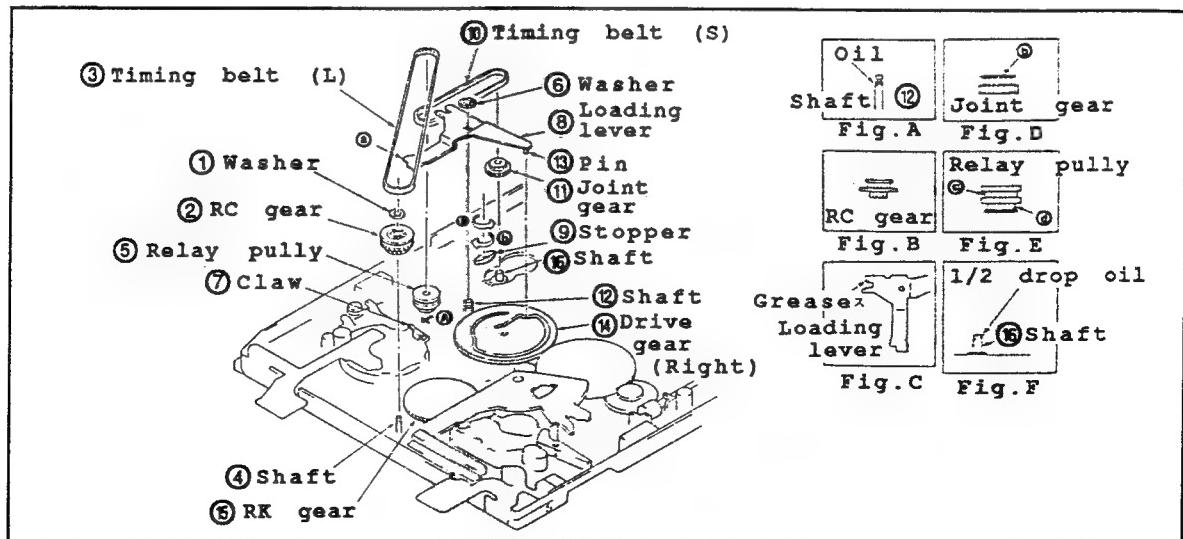

Fig.II-21
- Disassembling (Fig.II-21)
- (1) Set unloading state
- (2) In the same procedures in "3-3", dismount the capstan motor.
- (3) In the same procedures in "3-13", detach the pinch sub arm.
- (4) Remove the washer ①. Then dismount the RC gear ② (with the timing belt (L) ③ hooked) from the shaft ④.
- (5) Remove the washer ⑥. Then, detach the loading lever ⑧ while pushing the claw ⑦ toward the direction A.
- (6) Turn the stopper ⑨ toward the direction B by 90°.
- (7) Detach the joint gear ⑪ (with the timing belt (S) ⑩ hooked) from the shaft ⑯.
- (8) Separate the timing belt (S) ⑩ from the relay pulley ⑤.
*Note: When dismounting the gear ⑪, do not touch the flange B part. (Fig.D)
- Reassembling (Fig.II-21)
- (1) Apply 1/2 drop of oil to the shaft ⑯. (Fig.F)
- (2) Hook the timing belt (S) ⑩ to the joint gear ⑪, and then to the gear C of relay pulley ⑤ (Fig.E).
- (3) Attach the joint gear ⑪ to the shaft ⑯ with the timing belt (S) ⑩ attached.
- (4) Turn the stopper ⑨ toward the C direction until it comes to an end.
- (5) Apply 1/2 drop of oil to the shaft ⑫. (Fig.A)
- (6) Insert the loading lever ⑧ into the shaft ⑫. Then, match the A part with the claw ⑦ and insert the pin ⑬ into the groove of drive gear (right) ⑭.
- (7) Secure the washer ⑥.
- (8) Hook the timing belt (L) ③ to the gear as indicated in the Fig.B, and to the gear C of the relay pulley ⑤. (Fig.E)
- (9) Mount the RC gear ② to the shaft ④ (with the timing belt (L) ③ attached). Then, mesh it with the RK gear ⑮.
- (10) Secure the washer ①.